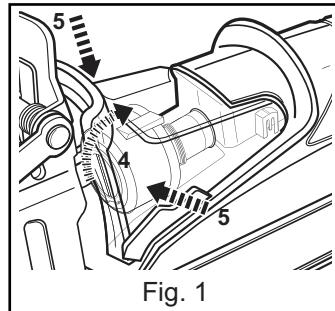

Fig. 1
- Lightly squeeze both sides of the clear protection cover (5) and open it (Figs. 1&5).
- Open the clear protection cover (5). (Figs. 1, 5 )